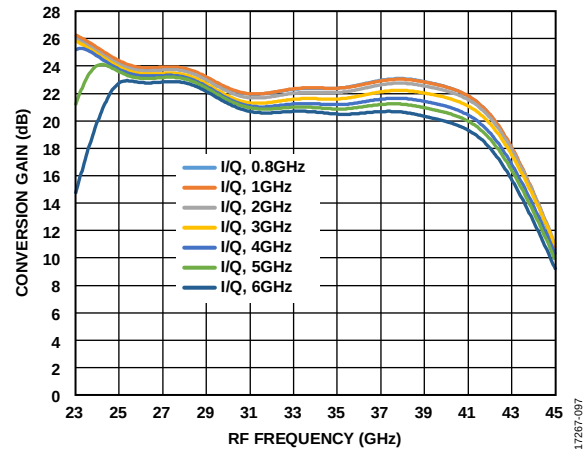
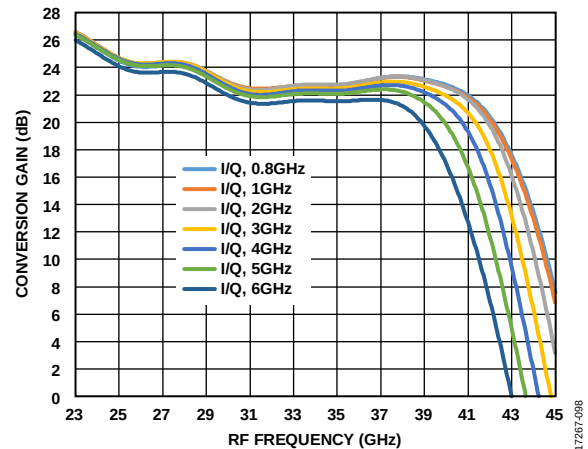

Figure 94. Conversion Gain vs. RF Frequency for Multiple Baseband Frequency Settings (Upper Sideband)
Figure 95. Conversion Gain vs. RF Frequency at Multiple Baseband Frequency Settings (Lower Sideband)
Figure 94 and Figure 95 show the conversion gain vs. RF frequency in I/Q mode for multiple baseband (BB) frequencies ( $T_A = 25^\circ\text{C}$ ,  $\text{LO} = 0\text{ dBm}$ ) for upper sideband and lower sideband, respectively.